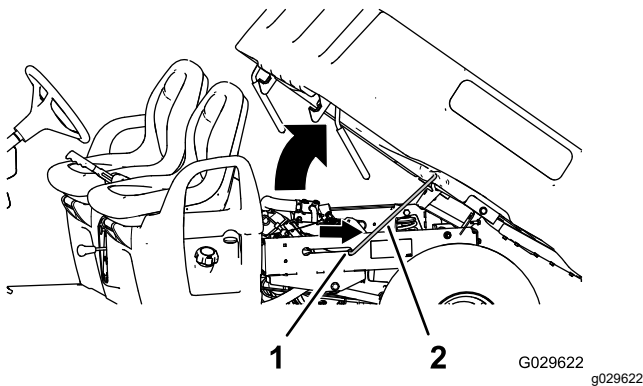

Figure 14
2. Pull the prop rod into the detent slot to secure the bed (Figure 14).
2. Pull the prop rod out of the detent slot (Figure 14).
3. Lower the bed until it latches securely into place (Figure 14).